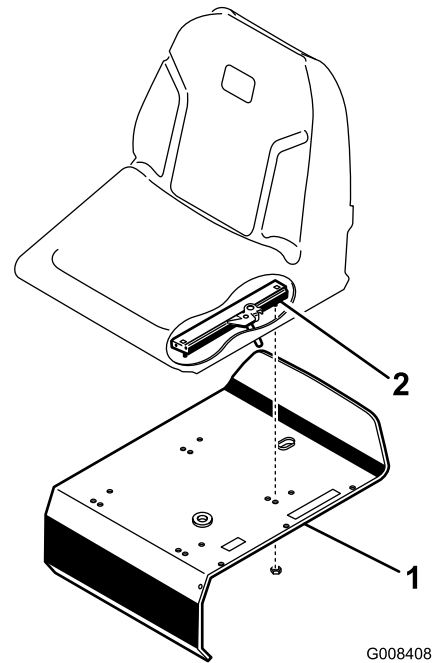

Figure 3
3. Secure the seat slides to the seat support with the locknuts (5/16 inches) supplied in the loose parts (Figure 3).